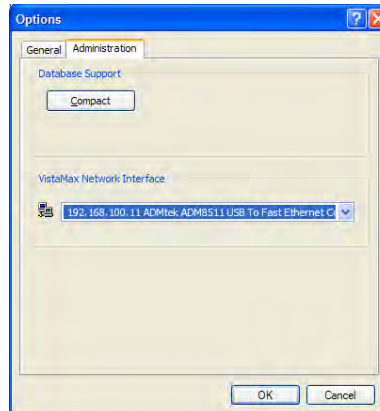

Figure 4-8. Network Interface Selection in VMCC
1. Click **Tools | Options** (Figure 4-8). The **Options** dialog box appears.